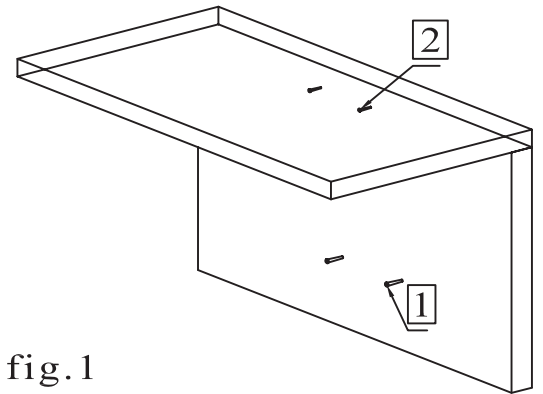

fig. 1
**Step two:** Mark your mounting points and install the two mounting screws provided leaving the heads out 1/4" to mount hood. fig 1